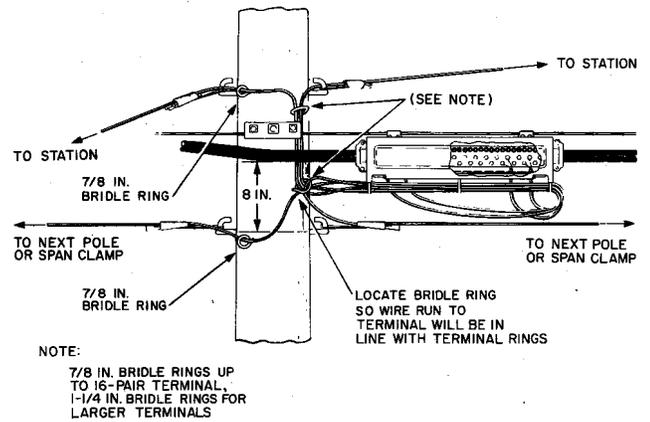

Fig. 4—Running Drop Wires To 61-Type Terminal
3.09 Refer to Fig. 4 for a typical arrangement of drop wires at a 61-type terminal.